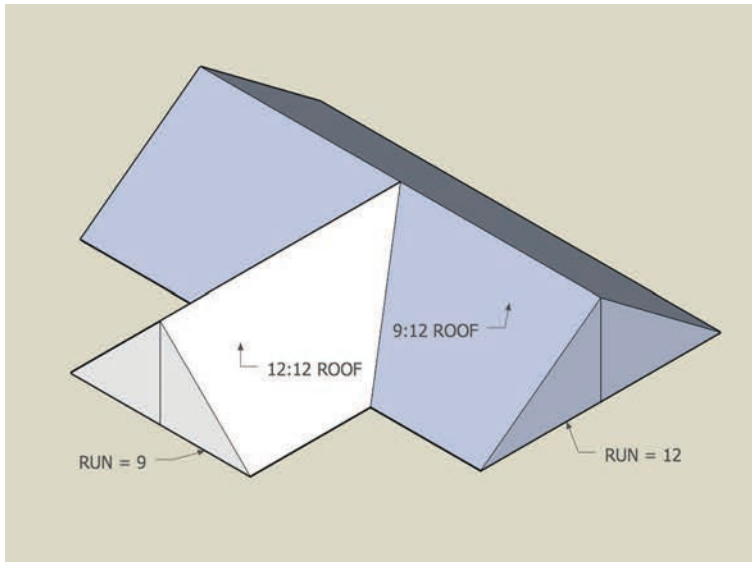

Fig. 25. Regular-plan, irregular-pitch compound roof.
IN Fig. 25 we have a regular-plan (90-degree intersection of the roofs) but irregular-pitch valley roof, 9:12 on the main roof and 12:12 on the adjacent roof. In this case, the valley does not run at 45 degrees, but we really don't need to know that angle since the ridges meet at the peak and the rise (9) is common to both roofs.